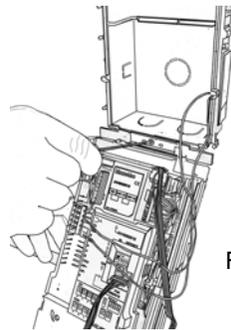

Fig. 10
4.8 REALISER LES BRANCHEMENTS DE L'INSTALLATION AVEC LA PLATINE BASCULEE VERS L'AVANT (FIG. 10 PAGE 17).